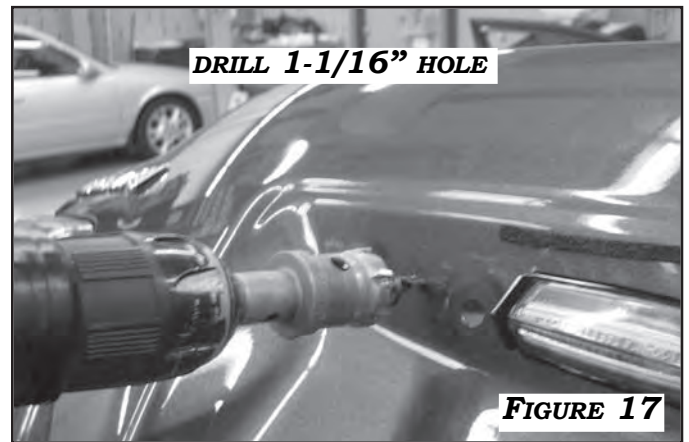

FIGURE 17
2. USE THE CAMRY TRUNK LID DRILLING FIXTURE TO LOCATE AND DRILL A 1/4" PILOT HOLE AS SHOWN IN **FIGURES 15-16** THEN USE A 1-1/16" HOLE SAW TO CUT A LARGER HOLE VIA THE PILOT HOLE AS SHOWN IN **FIGURE 17**. DEBURR THE HOLE AND COAT THE EDGE WITH APPROVED SILICONE SEALANT